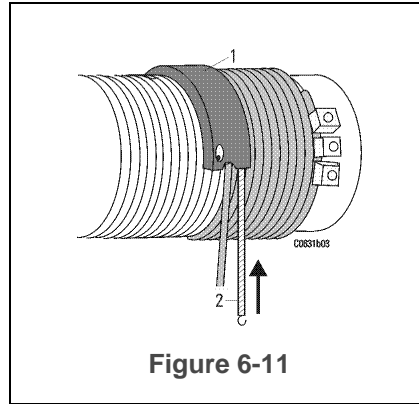
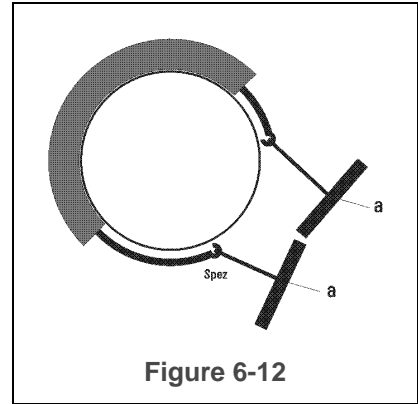

Figure 6-11
Figure 6-12
- Push rope tensioning spring (2) into the guide groove of the half-ring (1) and hook the ends of the spring together (see Figure 6-11). The special spring tool will make this easier (see “a” in Figure 6-12).